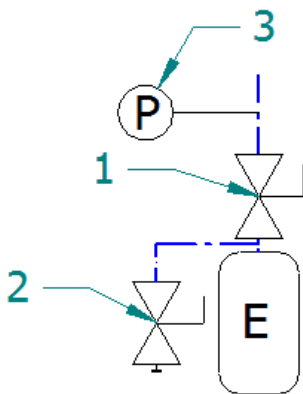

Fig 16: Connection of the expansion vessel
- close the ball valve **1** above the expansion tank (see **Fig 16**)